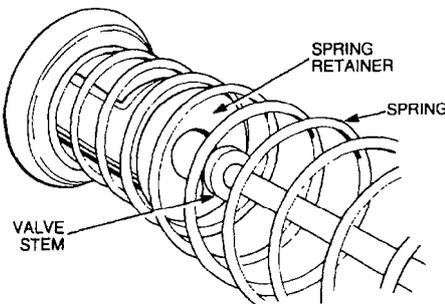

Figure 147 Valve Stem Reassembly
- Compress the spring and engage the valve stem in the keyhole slot provided in the retainer (Figure 147).